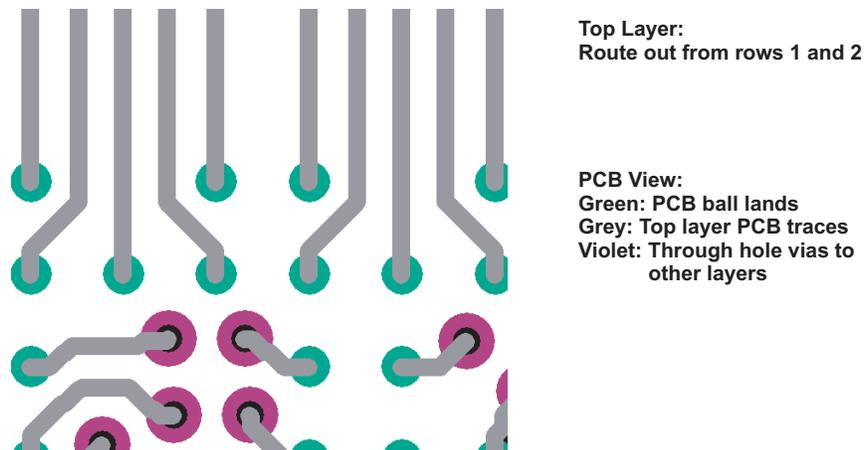

Figure 2. Outer Rows With Large Traces
Figure 2 shows the first two rows of the OMAP35x package and how it is possible to route large 5 mil (0.125 mm) traces and spaces in the areas of removed balls.
5. Route traces from the second row out through the missing ball areas in the first row as shown in Figure 2. Three traces will fit through each opening. This allows wider traces and spaces than when routing in between balls.